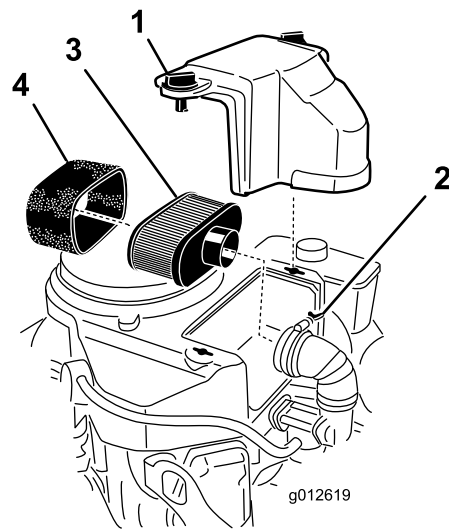

Figure 23
3. Clean the area around the air cleaner to prevent dirt from entering the engine and causing damage (Figure 23).
4. Unscrew the cover knobs and remove the air-cleaner cover (Figure 23).
5. Unscrew the hose clamp and remove the air-cleaner assembly (Figure 23).
6. Carefully pull the foam element off the paper element (Figure 23).
Important: Do not clean the paper filter, replace it (Figure 23).
1. Carefully slide the foam element on to the paper air-cleaner element (Figure 23).
2. Place the air-cleaner assembly onto the air cleaner base and secure it with the 2 wing nuts (Figure 23).
3. Place the air-cleaner cover into position and tighten the cover knob (Figure 23).